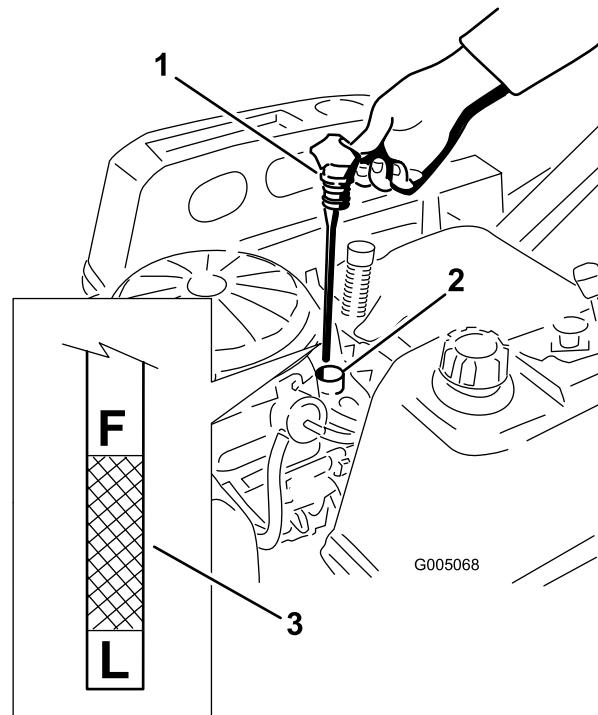
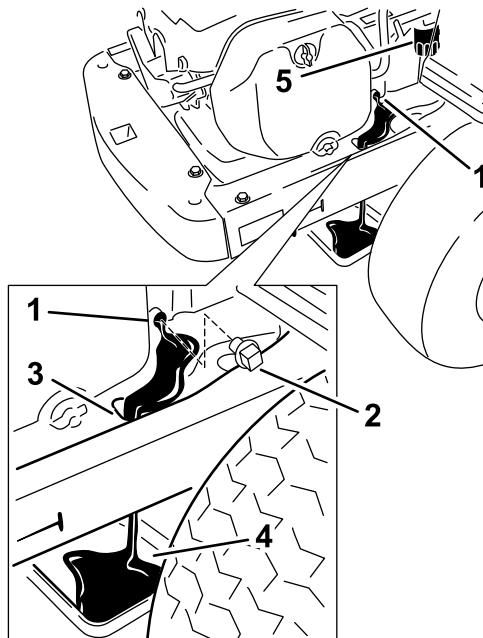

Figure 23
Figure 24
- Pull and remove the oil fill cap/dipstick; wipe oil off. Reinsert the dipstick and push firmly into place (Figure 23).
- Remove the dipstick and check the oil level. (Figure 23). The oil level should be up to, but not over, the **F** mark on the dipstick.
- Clean the area around the drain plug and on the machine frame. Place a pan underneath machine directly below the drain hole in the frame as shown in Figure 24.
- Remove the oil drain plug (Figure 24). Remove the oil fill cap/dipstick (Figure 23).
- Remove the old filter and wipe off the mounting pad (Figure 24).
- When oil has drained completely, install the oil drain plug. Tighten the plug to 14 N·m (125 in-lb) torque. Wipe up any excess oil on the frame (Figure 24).
- Slowly pour approximately 80% of the specified oil into the filler tube (Figure 23).
- Install the oil fill cap/dipstick and push firmly into place (Figure 23).
- Check the oil level (Figure 23); refer to Checking the Oil Level.